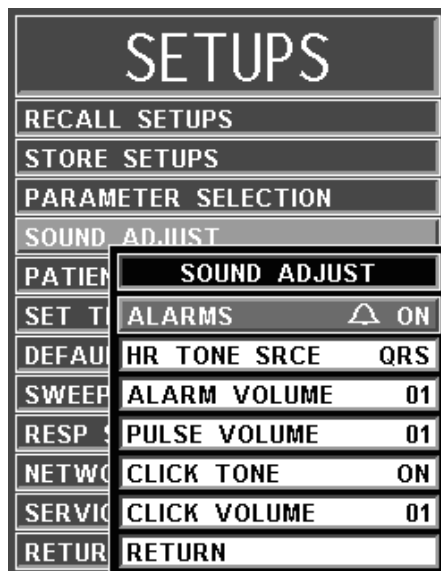

Figure 3-5. The SOUND ADJUST Menu
- (4) **Sound Adjust.** Selecting this menu option will bring up the **SOUND ADJUST** Menu (See Figure 3-5) which allows the user to switch the Alarm Tone ON and OFF, set the heart-rate tone source and set the volume for the different sounds the **3160 MRI Physiological Monitoring System** produces. While in this menu, all real tones are disabled and the message “**REAL TONES DISABLED**” is displayed at the top of the screen. Note that only the sound is disabled and the violated alarms will still flash on the screen if the parameter's Alarm Limit is violated. *This menu has a time-out feature. If no action is taken for approximately 60 seconds, the monitor will automatically return to the Normal Screen.*